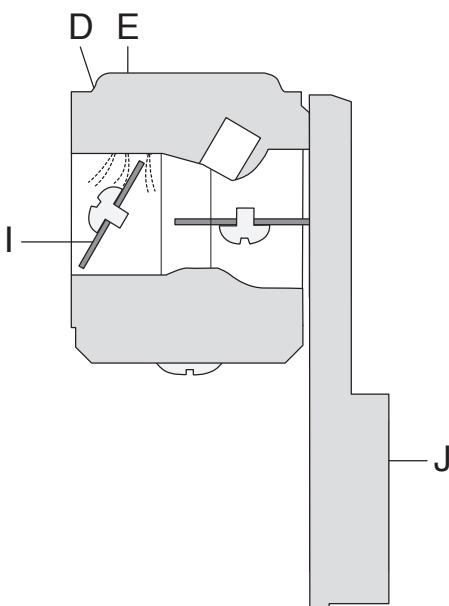

Fig. 6
In the part throttle mode (fig. 6) the throttle valve (I) is partially open. Fuel is supplied through the diffuser jets (D and E).